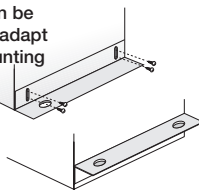

Figure 7
- Attach adjustable mounting brackets to fan, but leave the screws loose until proper height is determined, shown in Figure 7.